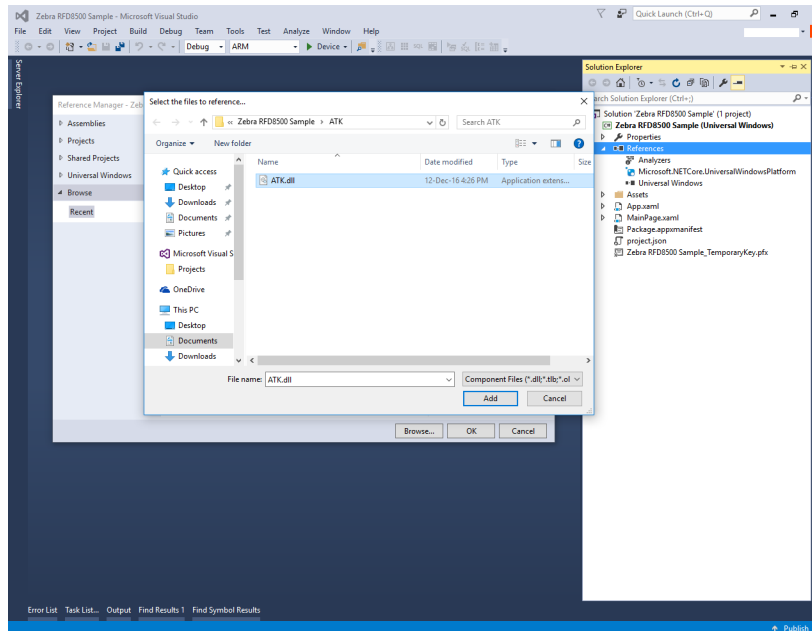

Figure 6-3 *ATK.dll - Assembly Reference Section*
5. Add the ATK.dll from the Assembly Reference section as shown in Figure 6-3. The ATK - ASCII SDK is the serializer and parser for commands sent and responses received from the reader using ZETI.